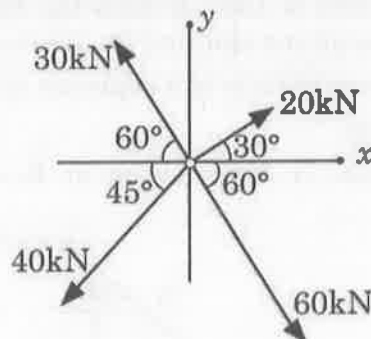

Fig 3
11. (a) Find the x and y components of force system shown in Fig. 3 . Also find the resultant of the given forces in magnitude and direction.